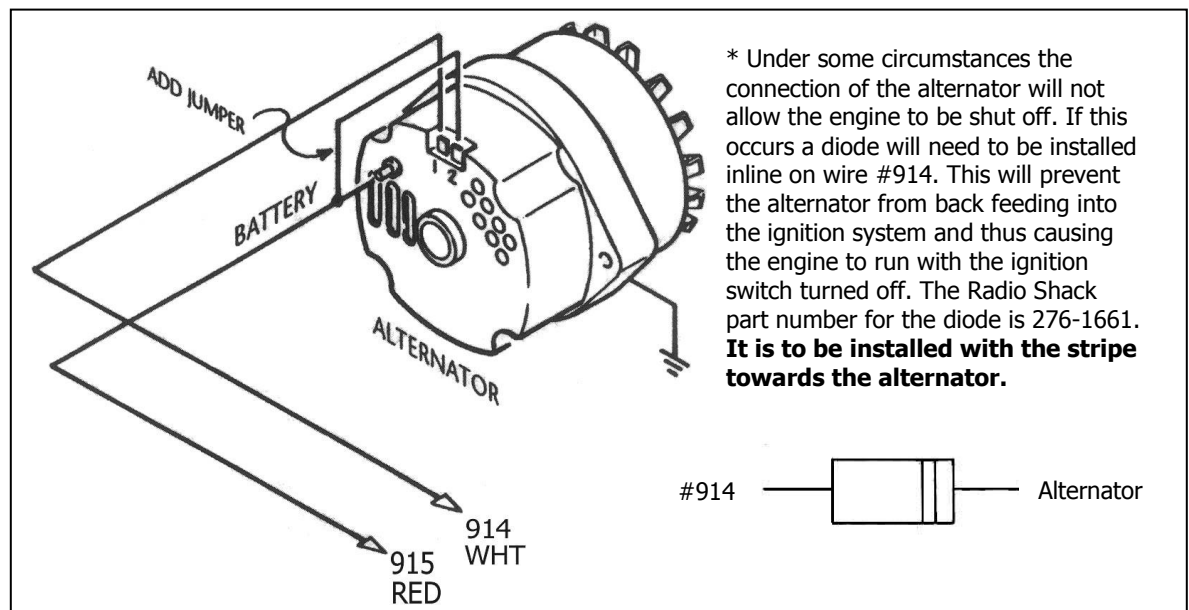

Figure 8.4 GM Alternator - Internal Regulator
8.4 Late GM Alternator - Internal Regulator. See Figure 8.4.
** If you do not have a One Wire alternator refer to Figure 8.4